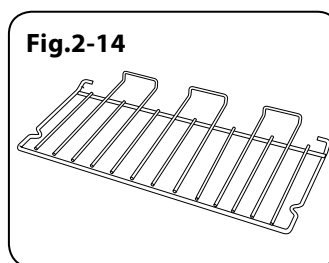

Fig.2-14
- One full capacity shelf (**Fig.2-14**)